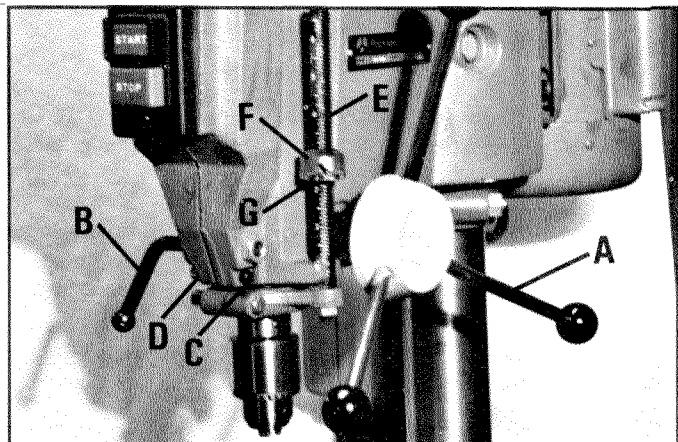

Fig. 9
The spindle is raised and lowered by the pilot wheel (A) Fig. 9. The quill can be locked at any desired point in its travel by tightening the quill lever (B) Fig. 9. This is an especially desirable feature for router and shaper work.
The adjusting screw (C) Fig. 9 and nut (D) are set at the factory to give the quill the proper sliding fit in the head casting. After long service play between quill and head casting can be removed without the need to replace these parts. The nut (D) Fig. 9 is loosened, adjustment is made with the screw (C), and the nut is again tightened to prevent the screw from turning. Hold the screw with a screwdriver when nut is tightened, and check by moving the quill up and down several times to be sure the quill does not bind. This adjustment should be made with the stop rod (E) Fig. 9 removed.
When drilling one or two holes to a predetermined depth, the calibrations on the face of the depth stop rod (E) Fig. 9, can be used.
1. Raise the locking sleeve (F) Fig. 9, and turn the micro nut (G) to the desired position on the stop rod (E).
2. Lower the locking sleeve (F) so it will engage micro-nut (G) Fig. 9. Lock sleeve in place with thumb screw if drill press head is mounted in other than vertical position. When the drill press is mounted with the chuck pointing up the locking sleeve (F) and micro-nut (G) Fig. 9, should be reversed on the stop rod (E).
3. When locking sleeve (F) is in place on the micro-nut (G) Fig. 9, the micro-nut can not be turned. When a change in depth is required, the locking sleeve (F) must be raised and while it is raised, turn the micro-nut (G) the necessary calibration marks. Each mark represents .002". Then lower the locking sleeve.
3. The tension of the spring can be tested by pulling down the pilot wheel lever (F) Fig. 10, and testing to see if the quill will return to the up position. Be sure the quill locking lever (G) Fig. 10, is loose while testing. **NOTE: Before determining if this adjustment is necessary, make sure the stop rod (E) Fig. 9, runs freely up and down and is not twisted in the slot or guide of the head casting.**